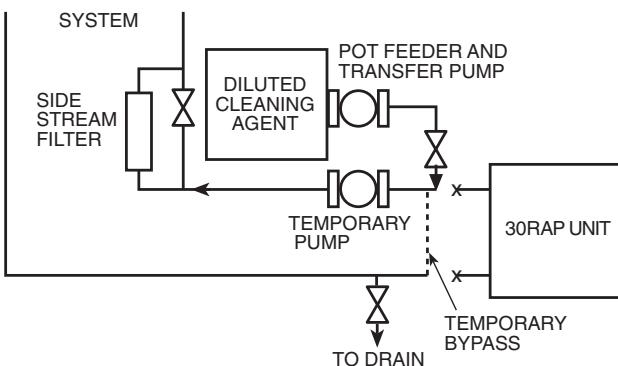

Fig. 22 — Cleaning Using a Side Stream Filter
- c. A side stream filter is recommended (see Fig. 22) during the cleaning process. Filter side flow rate should be enough to filter the entire water volume every 3 to 4 hours. Change filters as often as necessary during the cleaning process.